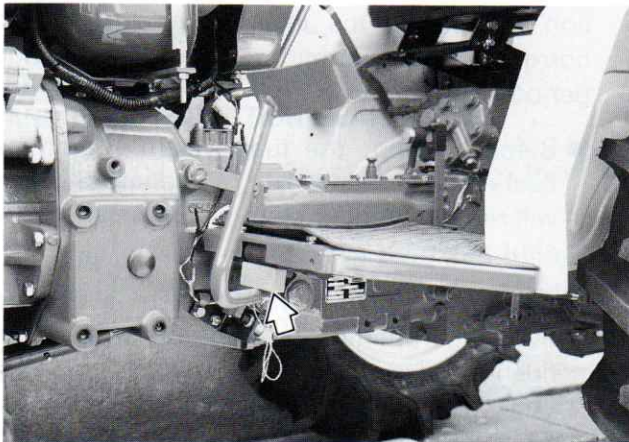

Figure 64 — Installing Pedal Spacer
10. Place pedal spacer between clutch pedal and step plate to separate clutch disc from flywheel Figure 64.